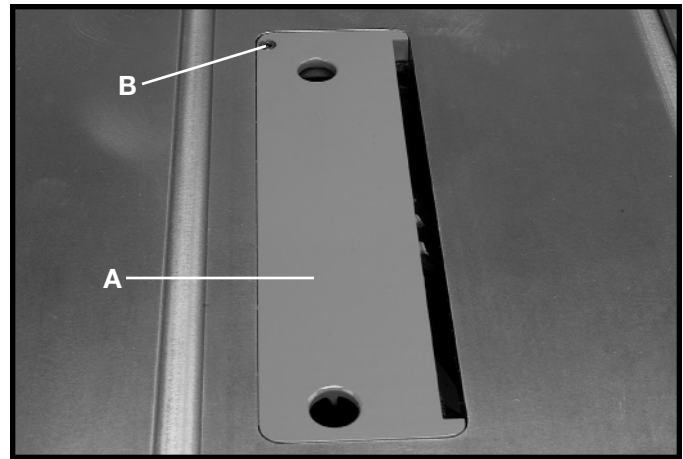

Fig. 8
1. Remove the table insert (A) Fig. 8, by removing screw (B) and pulling out on the table insert. Remove the blade by following the instructions in section “**CHANGING THE SAW BLADE**”.